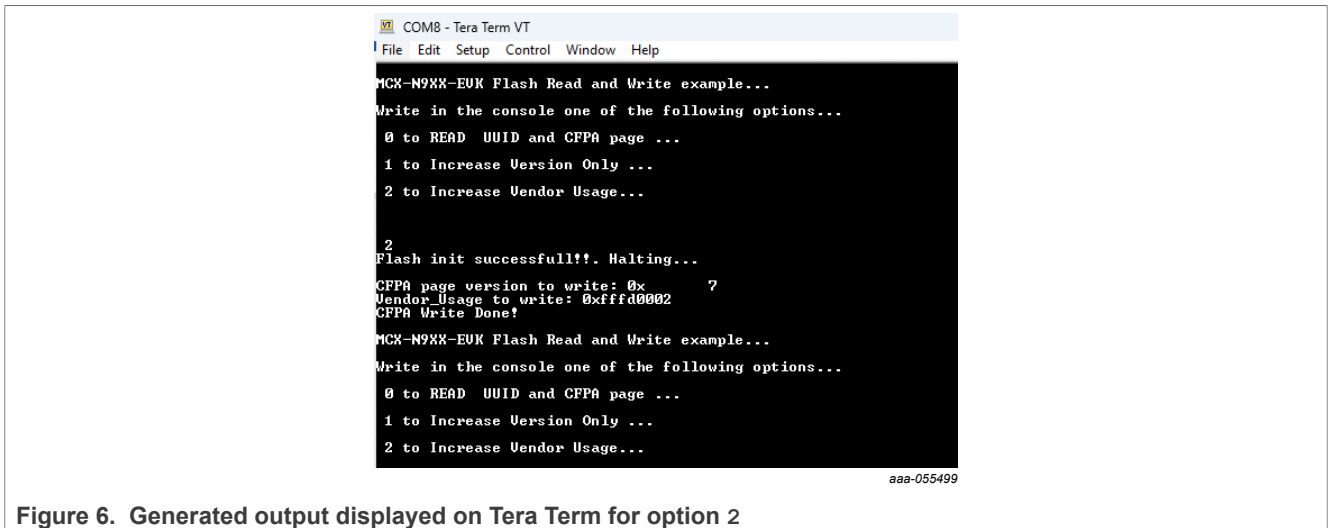

Figure 6. Generated output displayed on Tera Term for option 2
3. If the user chooses the third option by typing 2, the new version of the vendor usage page that will be written into the corresponding field is shown in Figure 6 along with the updated CFPa page version. After the confirmation message is printed CFPa Write Done!, the user can type “0” again to see the updated CFPa page contents.